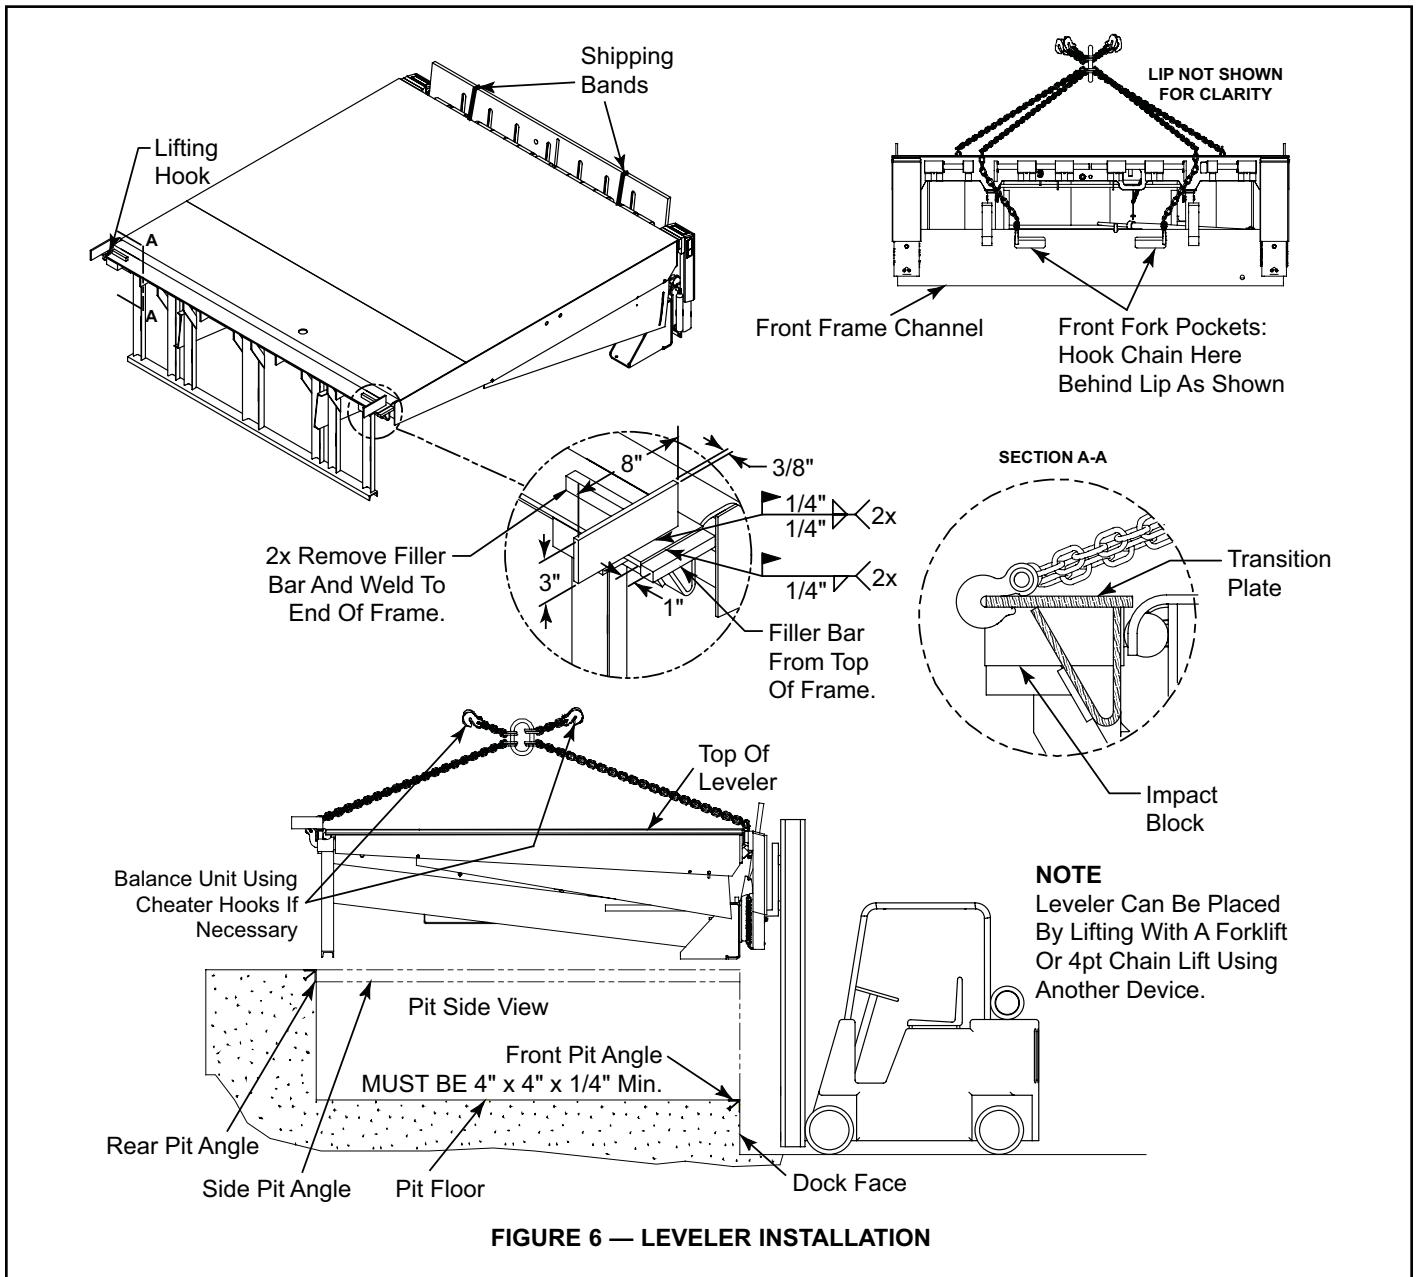

FIGURE 6 — LEVELER INSTALLATION
3. Before placing leveler in pit, tack weld Installation Tabs onto Rear Frame Angle as shown in Figure 6 (if unit is already in pit, raise leveler sufficiently to attach Installation Tabs and lower back into pit).
5. Install leveler using front fork pockets or hoist leveler into pit with four point chain assembly. Lower leveler until it rests on the Installation Tabs. See Figure 6.